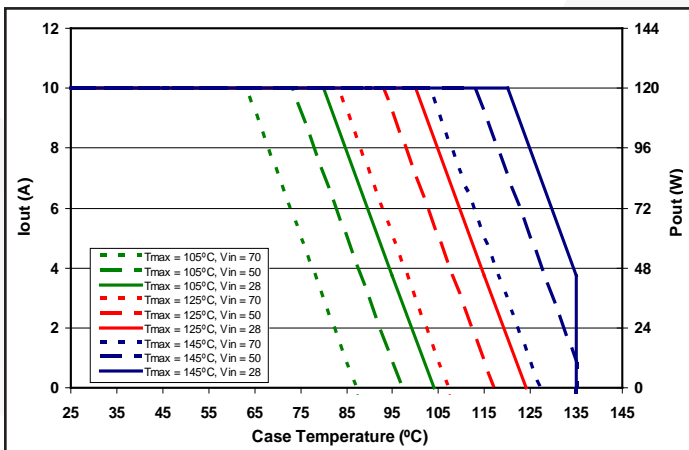

Figure 5: Output Current / Output Power derating curve as a function of T_{case} and the Maximum desired power MOSFET junction temperature (see Note 14).
2. Derate output power to 50% of rated power at T_{case} = 135°C (see Figure 5).
THERMAL CONSIDERATIONS: Figure 5 shows the suggested Power Derating Curves for this converter as a function of the case temperature, input voltage and the maximum desired power MOSFET junction temperature. All other components within the converter are cooler than its hottest MOSFET.
The Mil-HDBK-1547A component derating guideline calls for a maximum component temperature of 105°C. Figure 5 therefore has one power derating curve that ensures this limit is maintained. It has been SynQor's extensive experience that reliable long-term converter operation can be achieved with a maximum component temperature of 125°C. In extreme cases, a maximum temperature of 145°C is permissible, but not recommended for long-term operation where high reliability is required. Derating curves for these higher temperature limits are also included in Figure 5. The maximum case temperature at which the converter should be operated is 135°C.